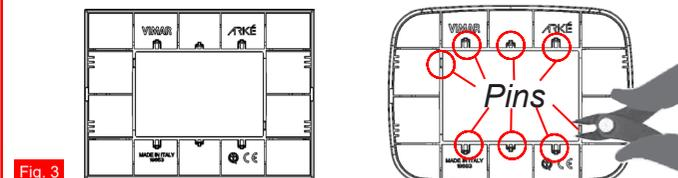

Fig. 3
**N.B.** For mounting plates VIMAR series **ARKE' Classic, ARKE' Round** versions (**Color-tech and Tecno-Basic**) remove with a cutter **8 pins** on the back of the plates **ARKE'** as shown in Figure 3.